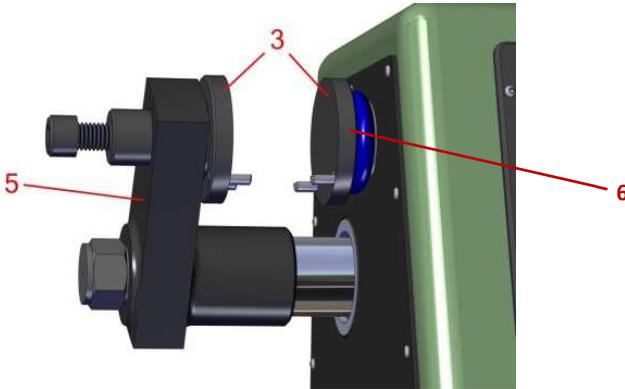
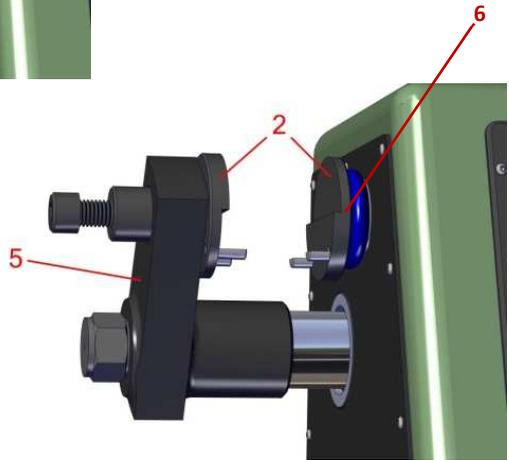

Figure 5.1.3
Figure 5.1.4
Refer to Figure 5.1.3. Showing detailed photos of Compression clamps properly installed on the strength machine. Refer to Figure 5.1.4 showing detailed photos of the shear clamps properly installed on the strength machine.
3. Gently place a prepared 2" X 2" (50 mm x 50 MM) sand specimen between the compression clamps. The sand specimen should rest on the four (4) positioning pegs located on the bottom of the compression clamp accessory. The surface of the sand specimen that was resting on the stripping post should be located against the compression clamp accessory attached to the stationary clamp holder. (Figure 5.1.4, Item 6)